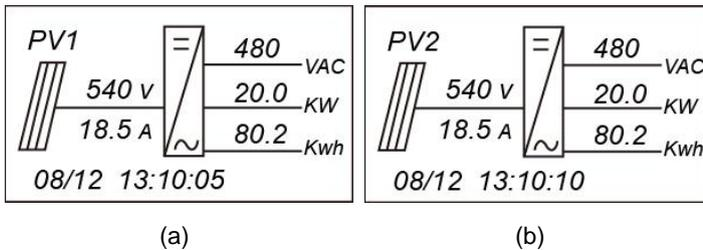

Figure 5-2 Default indication interface for normal operation
(2) Normal operation mode: Default indication interface for normal operation of CPS SC20KTL-DO/US-480 is shown in Figure 5-2 (a) and 5-2 (b). The switching time between (a) and (b) is 5 seconds.